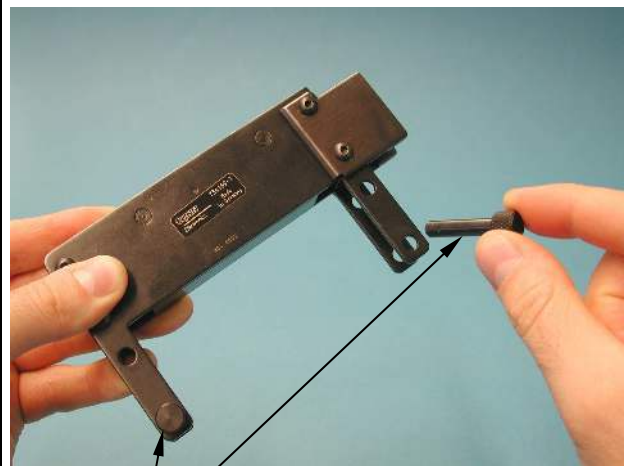

Figure 1
1. At first the two mounting bolts need to be removed from the tool head. See Figure 1.